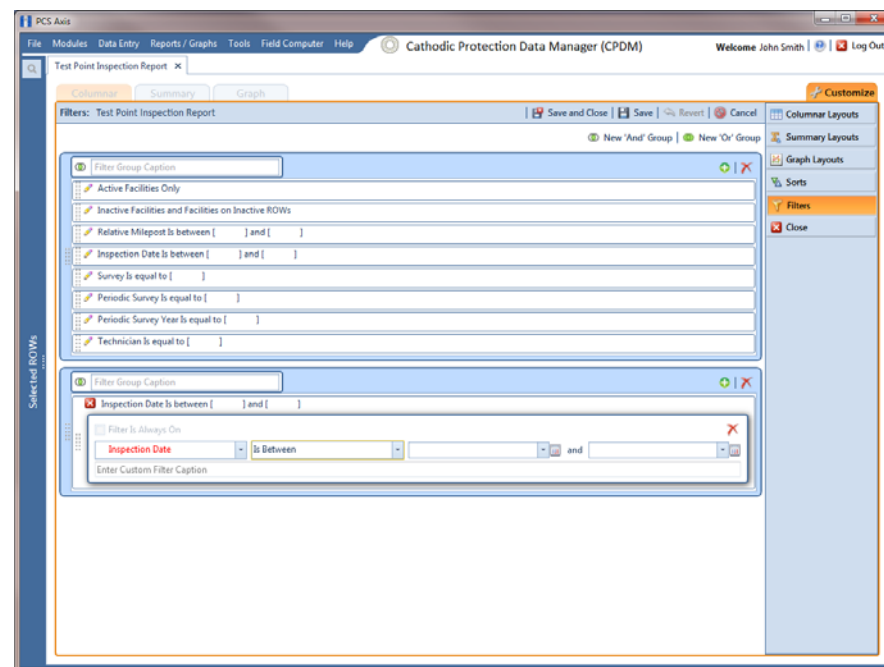

Figure 15-41. New 'And' Filter Group
- 4 Click  **New 'And' Group** to open the filter properties group box (Figure 15-41).
- 7 When adding a date filter, such as *Inspection Date Is Between*, set a date range using a calendar or dynamic dates in the following manner (Figure 15-41, page 625):